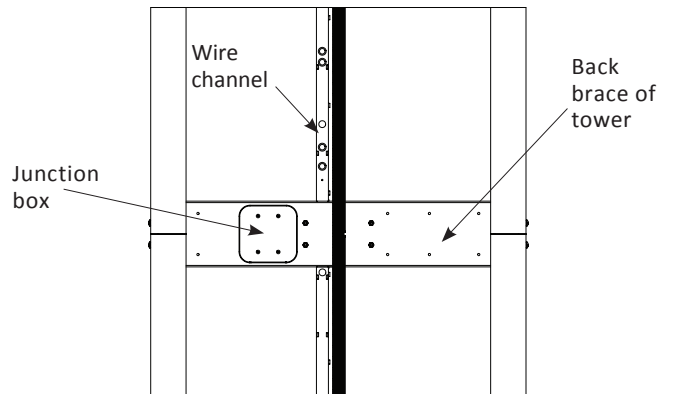

Figure 4-5
- Connect a temporary cord to a grounded 20A extension cord and route down through the back of the center wire channel to the bottom of the lift and out to a temporary 120V AC outlet. *See Figure 4-5.*